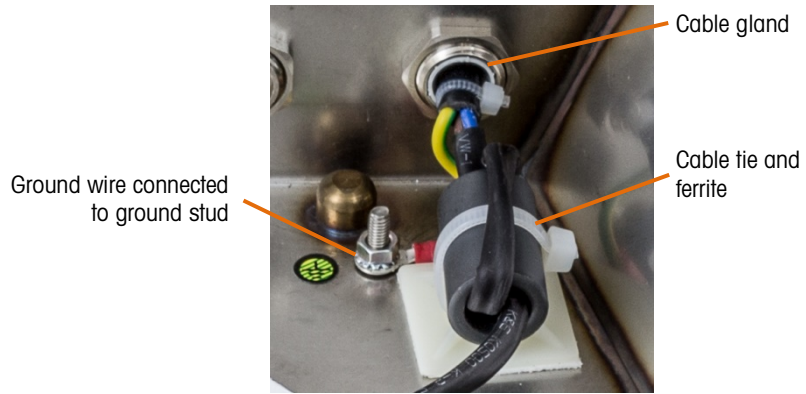

Figure 2-13: Original Location of Power Cord
- B. Snip the cable tie holding the power cord ferrite to the housing (indicated in Figure 2-13).